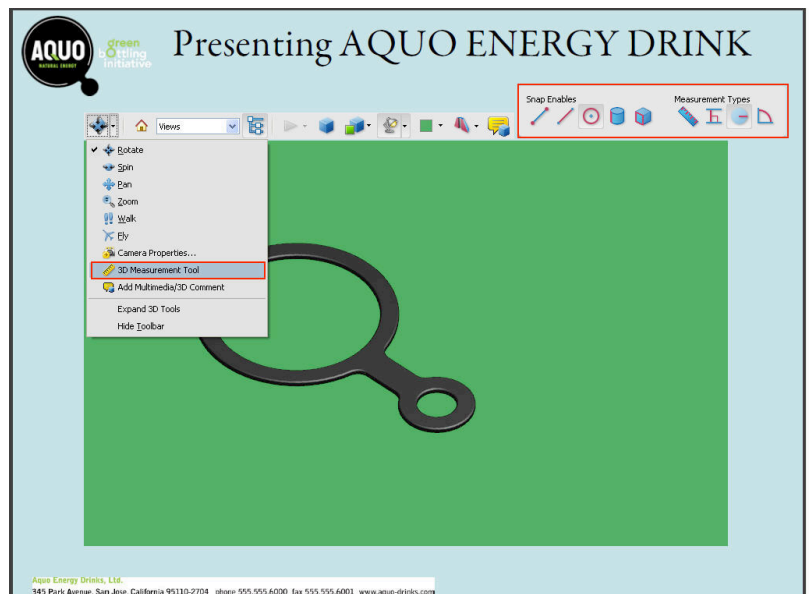

Figure 6
5. From the 3D toolbar, select 3D measurement tool to invoke the measurement tool, as shown in **Figure 6**.